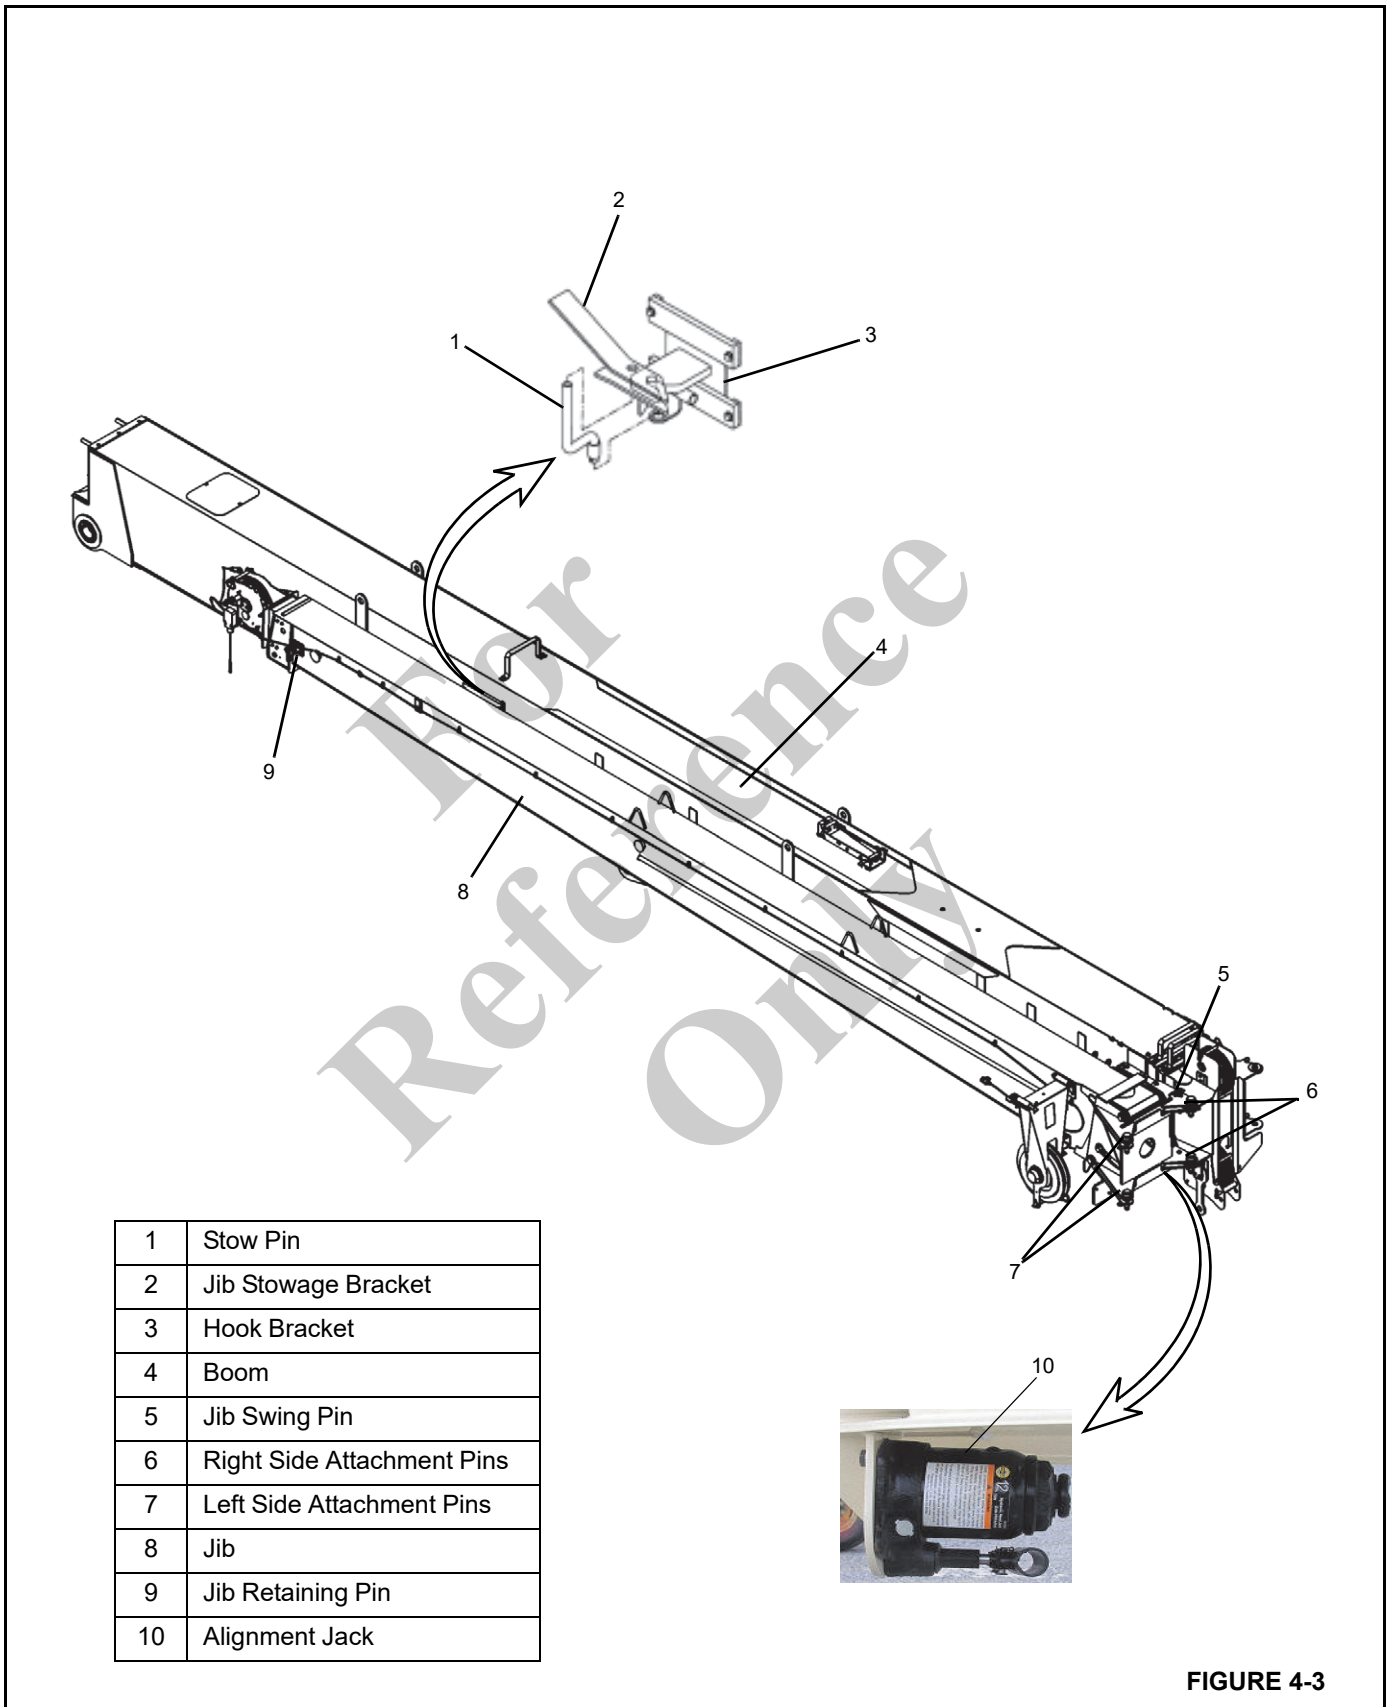
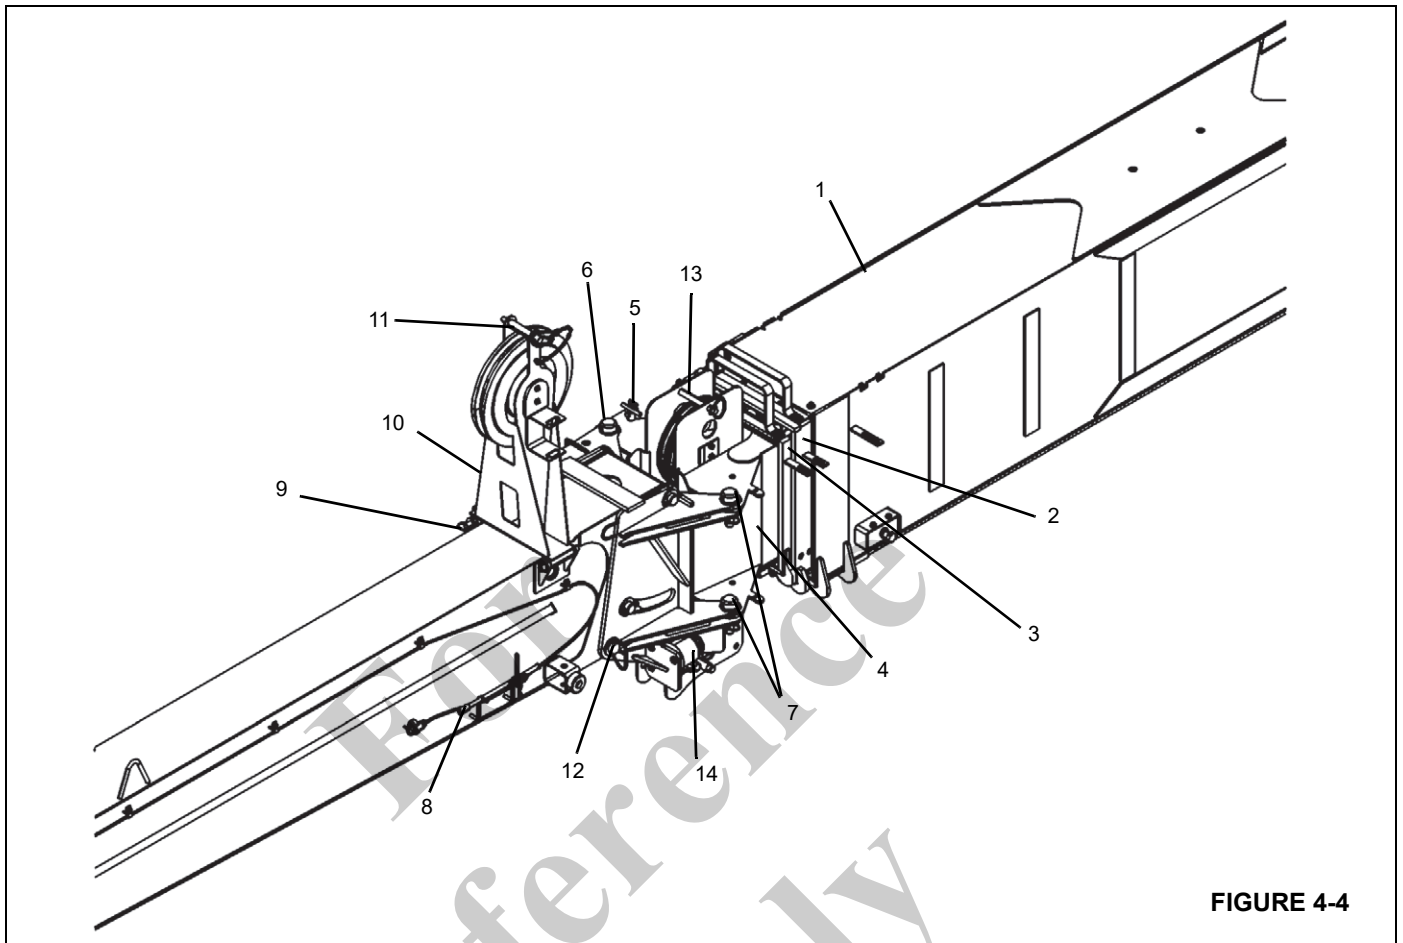

FIGURE 4-3
FIGURE 4-4
6. Ensure jib is stowed correctly (Figure 4-3):
- a. Removal of right side attachment pins (6), without proper installation of stow pin (1) and jib swing pin (5), may allow jib to fall off.
- b. Extending boom with jib stowed and failure to remove right side attachment pins (6), will damage unit upon extension.
7. Only swing jib into working or stowed position when boom is horizontal, stow pin (1, Figure 4-3) and jib swing pin (5) are removed and right side attachment pins (6) are in place. Jib could swing uncontrollably if boom is not horizontal.
12. Do not extend/retract boom unless boom is horizontal when stow pin (1, Figure 4-3) and jib swing pin (5) are removed during stowing or unstowing procedures.
1. Jib retaining pin (9, Figure 4-3) must always be installed when operating.
3. Extendable section may slide out of 1st section jib when jib retaining pin (9, Figure 4-3) is removed. Keep personnel clear of area.
4. Install right side attachment pins (6, Figure 4-3) in upper and lower jib lugs, secure with retainer spring clips. These pins are used as a pivot point to swing jib into the deployed position.
5. Locate the stowed position of attachment pins (7, Figure 4-3). If in jib attachment holes or boom sheave case jib holes, remove pins from storage location.
6. Remove jib swing pin (5, Figure 4-3) from top lug of jib.
7. Remove stow pin (1, Figure 4-3) and stow in hook bracket (3), secure with spring clip.
10. Using telescope function, slowly extend boom approximately 30 cm 12 in. This procedure will pull the jib out of the hook bracket (3, Figure 4-3).
12. Install upper left attachment pin (7, Figure 4-3) and spring clip. A slight hammer strike may be necessary to install pins. Always use proper eye protection during this step.
2. Using lift function, lower boom so that attachment pins (6 and 7, Figure 4-3) are easily accessible from the ground.
13. Use the alignment jack (10, Figure 4-3) to align lower left side attachment pin (7, Figure 4-3).
- a. Remove the jack handle (8, Figure 4-4) from the boom stowage bracket and check that the jack release valve is closed.
- b. Extend the alignment jack (10, Figure 4-3) so that the lower left pin holes (7, Figure 4-3) are aligned.
- c. Install the lower left side attachment pin (7, Figure 4-3) and spring clip.
- d. Open the jack release valve and retract the jack (10, Figure 4-3).
18. Install jib swing pin (5, Figure 4-3) and spring clip into jib lugs.
19. For manually extendable jib, pull jib retaining pin (9, Figure 4-3), and extend second section out by pulling on sheave case. The second section jib, as it extends, will hit a mechanical stop that allows for jib retaining pin (9, Figure 4-3) installation. Install pin (9) and spring clip.
- Both pins (6, Figure 4-3) in upper and lower jib holes properly in place through mating holes on boom tip.
1. Using lift function, lower boom so that side attachment pins (6 & 7, Figure 4-3) are easily accessible from the ground.
2. Two section jib - For manually extendable jibs, pull jib retaining pin (9, Figure 4-3) and fully retract extendable 2nd section into the tele 1. Retraction of 2nd section may be facilitated by attaching loadline wedge socket to jib nose. Slowly activate the hoist up function until the 2nd section is fully retracted.
3. Two section jib - Reinstall jib retaining pin (9, Figure 4-3) through the 1st and 2nd section jib assembly and install spring clip.
7. Remove spring clips from left side attachment pins (7, Figure 4-3 and Figure 4-4) on both upper and lower jib lugs.
8. Remove jib swing pin (5, Figure 4-3) from the boom nose.
9. Remove left side attachment pins (7, Figure 4-3 and Figure 4-4) from upper and lower jib lugs. Do not remove right side attachment pins (6) at this time. The right side attachment pins (6) will be used as a pivot point to swing jib into stowed position. A slight hammer strike may be necessary to remove pins.
12. Using tag line attached to jib sheave case, slowly swing jib into stowed position (parallel with tele 1 boom), the right side attachment pins (6, Figure 4-3) are the jib pivot points during this operation.
13. Install jib swing pin (5, Figure 4-3) with spring clip through jib lug and boom sheave case holes. This pin will keep the jib assembly in line (parallel) with the 1st section boom.